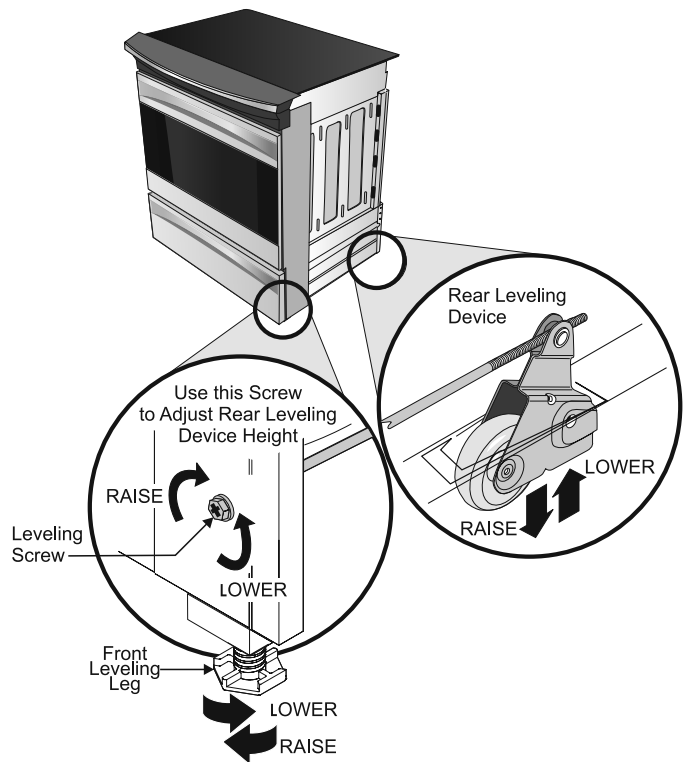

Figure 9
2. Adjust the appliance wheels and legs as follows until the underside of the cooktop surface is sitting level on the countertop (Figure 9).